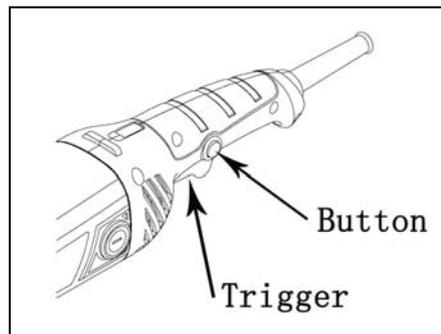

Figure 5
- 2) Start the tool by pressing the on/off safety button, then pressing the trigger of on/off switch down slightly (See figure 5).